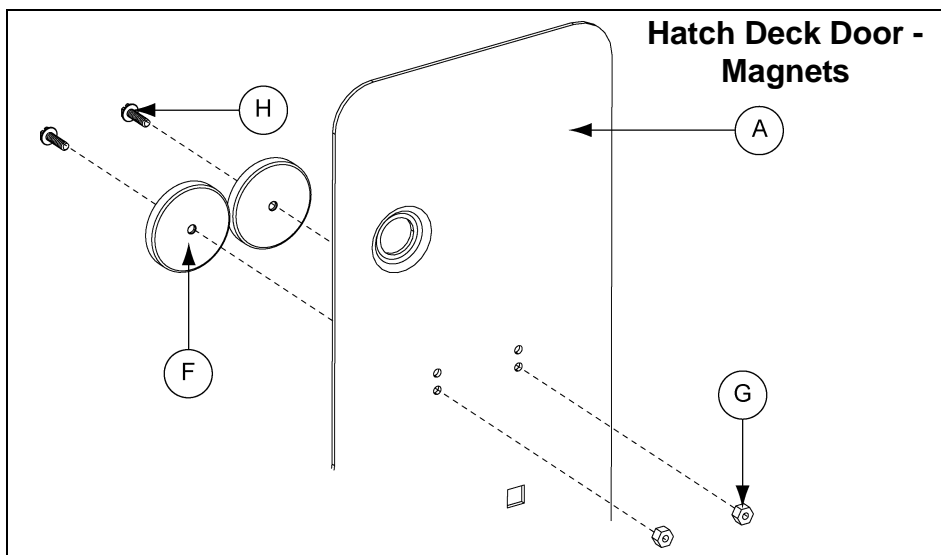

Figure 11C
4. Slide two (2) magnets (16-0092) onto each MS #6 x 3/4" FHS flat head screw (S-7166). Position the magnet so the screw head is countersunk into the magnet. (See Figure 11C.)